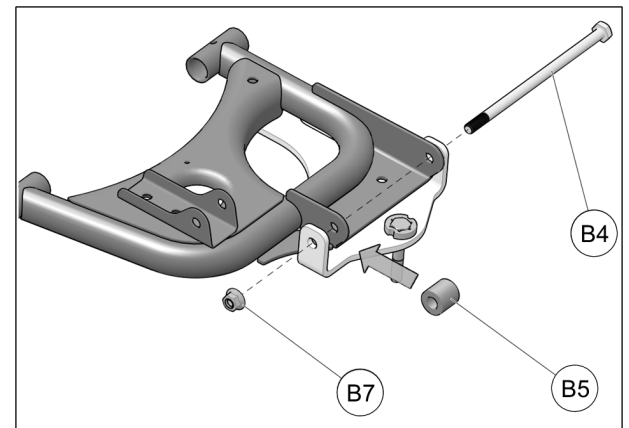

Fig. 8
7. Insert bushing (B5) between anchor bracket and a-arm and align all holes together. Bushing must be located on side of a-arm that faces rear of vehicle. Secure bracket, a-arm and wheel hub with new M10 bolt (B4) and M10 nut (B7). See Fig. 8